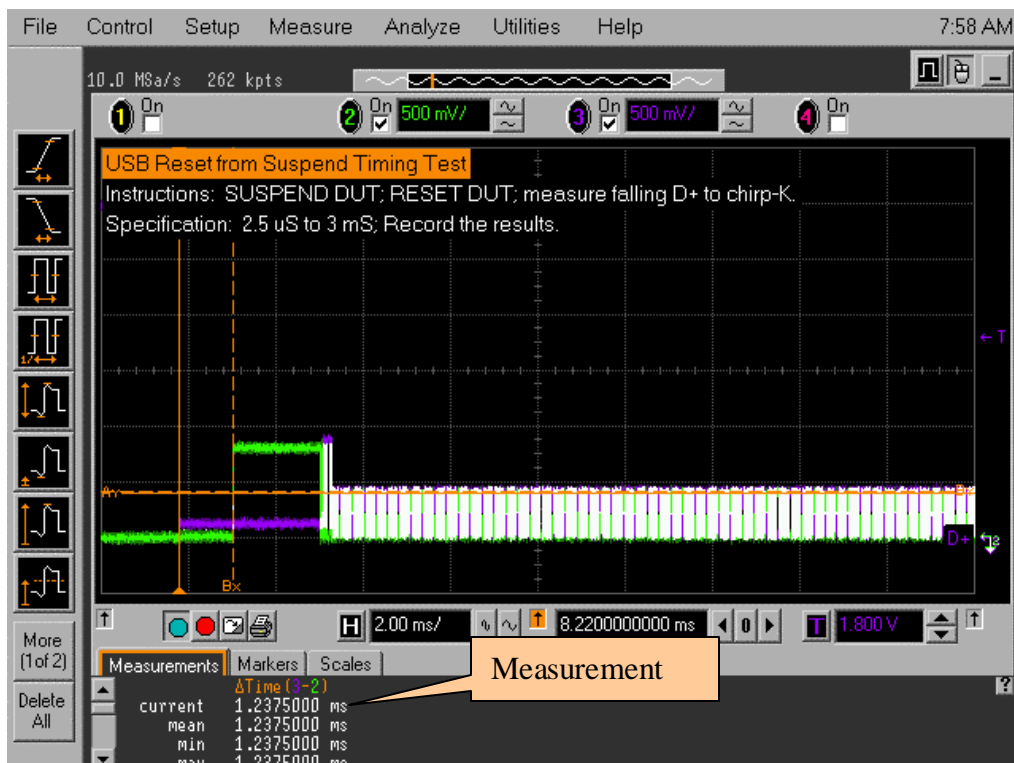

Figure 28. Device Reset from Suspend
- f. The captured reset from suspend transition should appear as in Figure 28.
- Using the automatic measurement shown in the bottom left of Figure 28, measure the time between the falling edge of the D+ and the start of the device CHIRP-K.